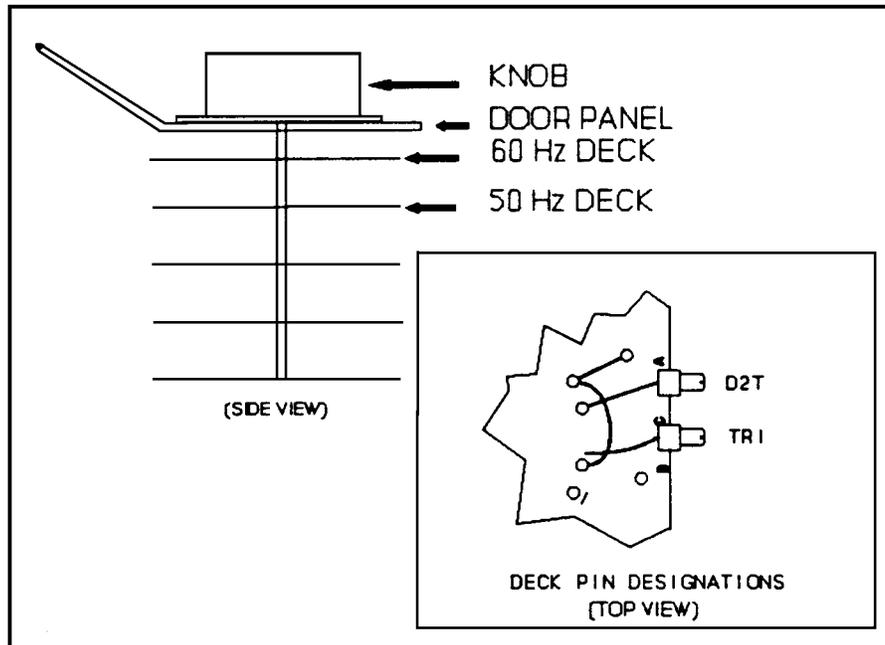

Figure 3-56
- (5) Install leads D2T and TRI on appropriate time select deck, (50 or 60 Hz). (See Figure 3-56.)